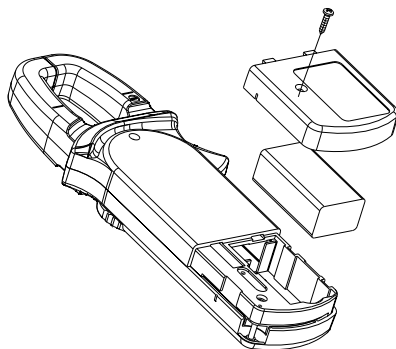

Figure 13
X. Maintenance(shown in Figure 13)